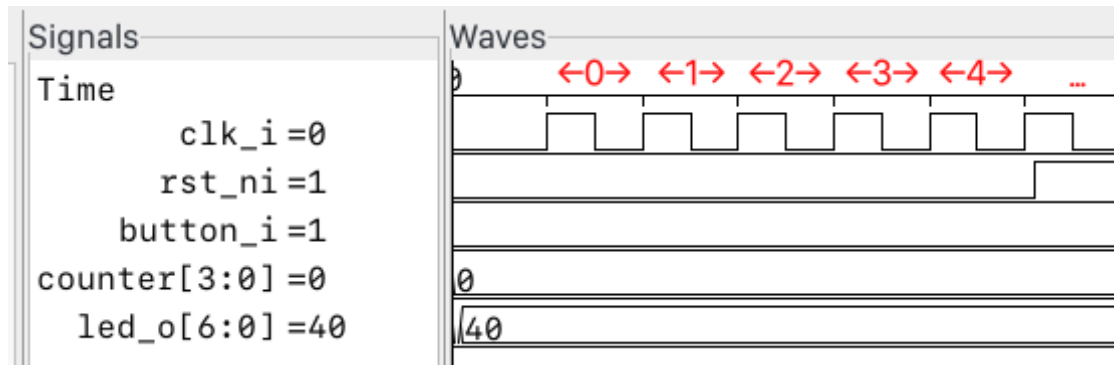

Figure 8: `sim_unit`
2. Because `driver.cpp` is a C++ file, assigned values could be manipulated usefully. Such as, the reset should be low for several cycles from the beginning, so using `sim_unit`, illustrated in Figure 8, as in line 4, it will certainly be low for 4 cycles from the beginning. Yet, it is just a part of the story.